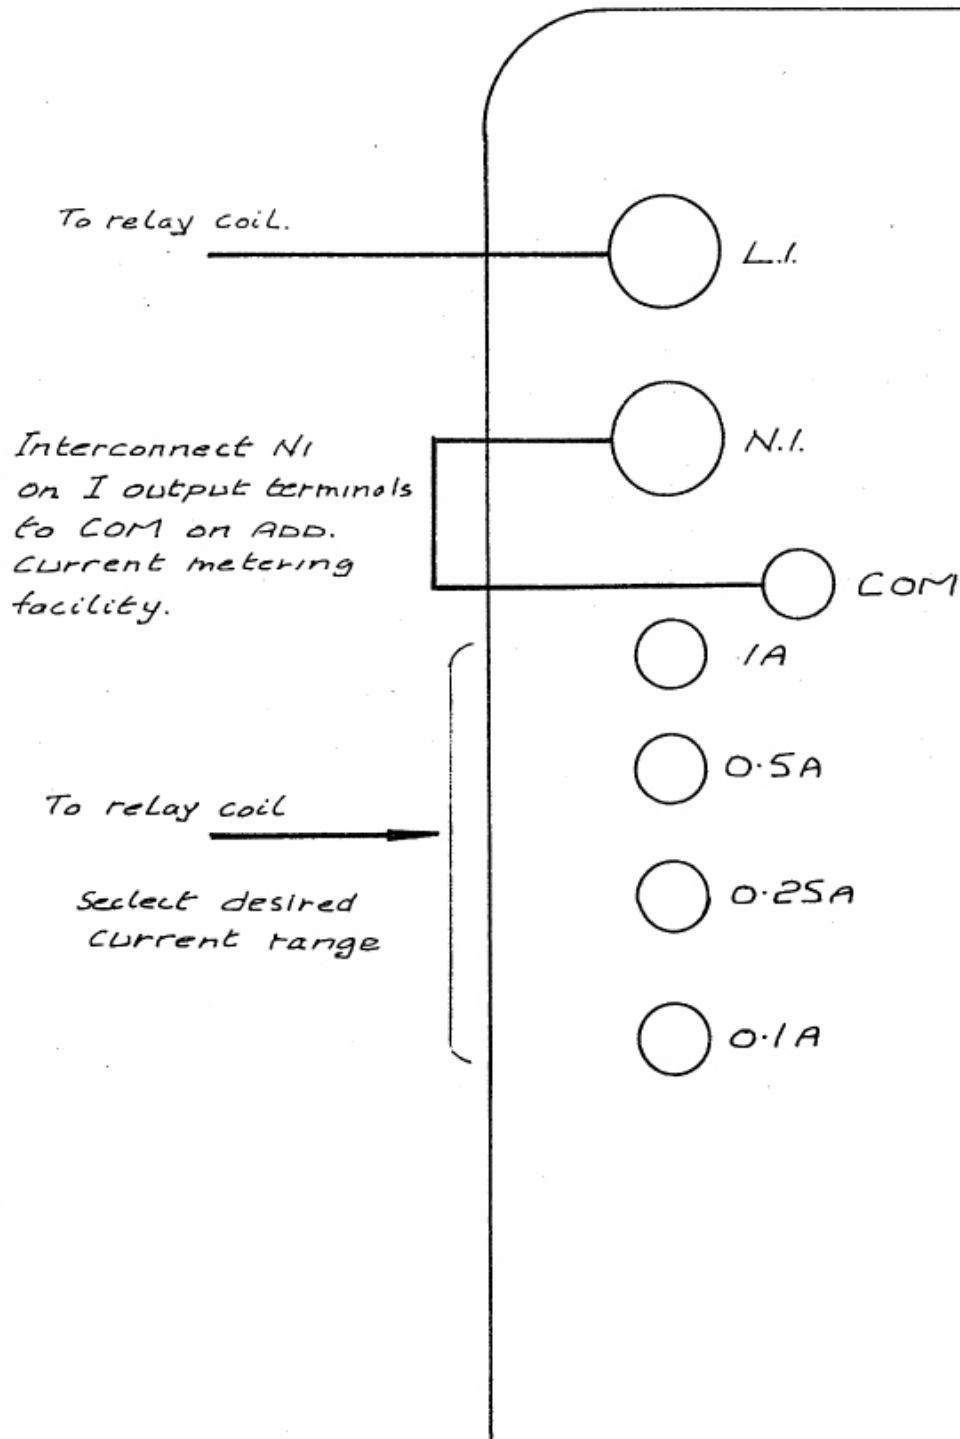

Fig 3d CONNECTION OF ADDITIONAL CURRENT METERING FACILITY
1.3.5 With the 0-240V AC output selected, the set's ammeter will read the load current being drawn, ie 0-1A. Should a lower range be required the auxiliary current transformer circuit can be connected to the voltage output. (See Figure 3d).
- 2.3.4 See Figure 3d for connection required for measuring currents on the AC Voltage output using the additional current metering facility.